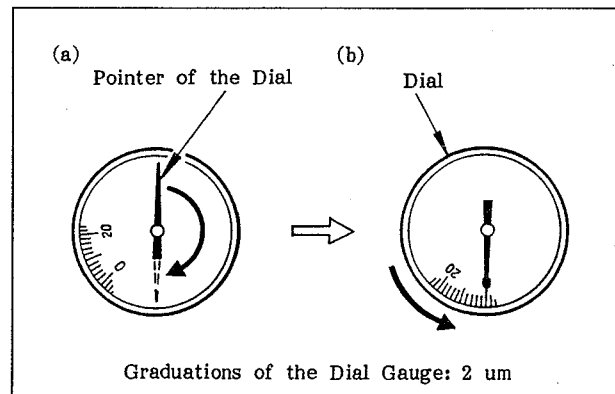

Fig. 5-25 Head Projection Check (5)
8. Turn the zero-point adjusting screw again until the pointer of the dial rotates 180 degrees, as shown in Fig. 5-25 (a).
9. Turn the dial as shown in Fig. 5-25 (b) so that the pointer of the dial is at the zero point.